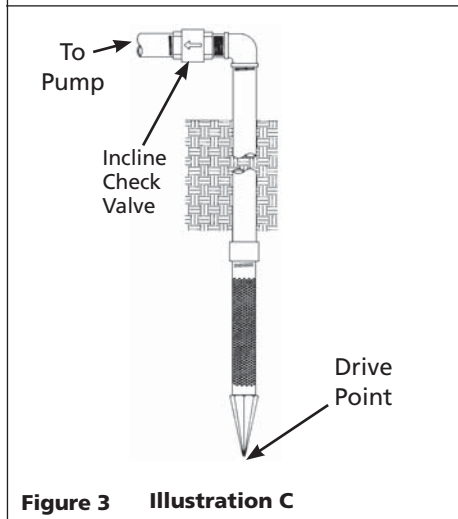

Figure 3 Illustration C
A shallow well pump can be used when the pump is located within 25 feet vertically of the water level. Shallow well pumps have only one pipe between the pump and the water supply (Figure 3).
1. Install a foot valve on the first section of pipe (Figure 3, Illustration A).
NOTE: A packer type foot valve can be installed in the well (Figure 3, Illustration B). This type of foot valve allows the well to be filled with water when priming and makes the inlet pipe much easier to test for leaks. Follow the manufacturer's instructions when installing the packer type foot valve.
As an alternative, an in-line check valve can be used with a driven well (Figure 3, Illustration C). The pipe between the check valve and the water level will always be under a vacuum.